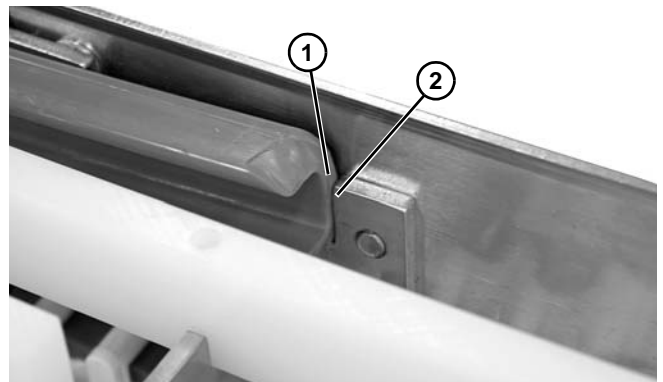

Figure 44
3. When installing a new wear strip, make sure the wear strip (**Figure 44, item 1**) is contacting the crossmember tab (**Figure 44, item 2**) - to prevent the wear strip from disengaging.